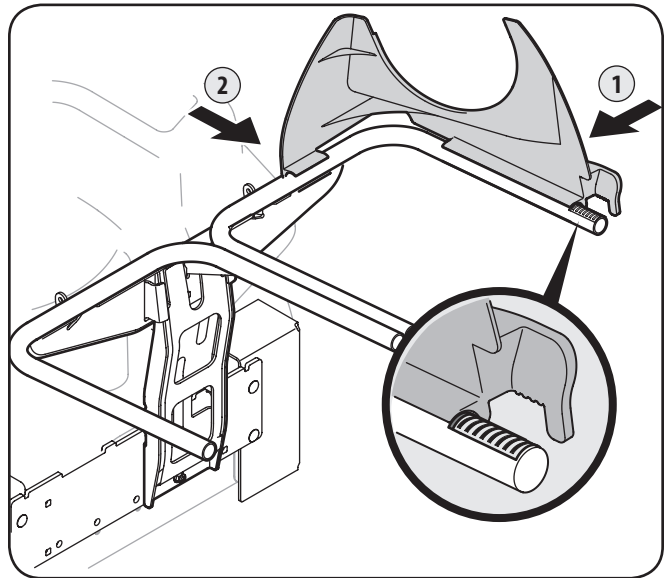

Figure 5-6
- Snap the plastic upper chute support in place by first clipping the side portion onto the bagger support rail (1) with the edge of the snap feature aligned with the line on the label, as shown in the inset of Figure 5-6.
- Snap the front side of the chute support to the rail (2), as shown in Figure 5-6.